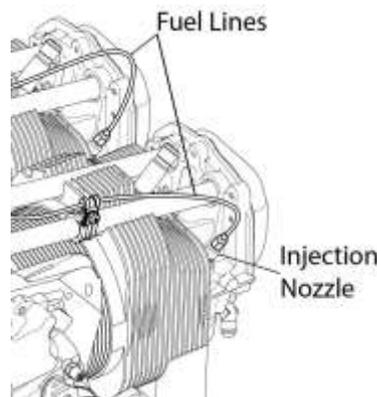

Figure 8
- (1) Disconnect the fuel line from the injection nozzle (Figure 8).
- (2) Remove the injection nozzle from the engine cylinder.
- (1) Before installing the injection nozzle on the engine cylinder, as an option, complete the “Injection Nozzle Fuel Flow Check” in this chapter.
- (2) Lightly lubricate the injection nozzle threads with engine oil mixture.
- (3) Install the injection nozzle (Figure 8) on the engine cylinder.
- (4) Torque the injection nozzle to 60 in.-lbs. (7 Nm). Continue to torque the injection nozzle until the letter or number stamped on the nozzle points downward.
- (5) Connect the fuel injector line to the injection nozzle.
- (6) Make sure the clamps are installed securely on the fuel injector lines per the “Fuel Line Installation” procedure.
- (6) During the “Operational Ground Check” (Chapter 72-00) and after all maintenance is complete, look for fuel leaks at the fuel injector lines and connections during engine operation. Identify and correct the cause of any fuel leak. There must not be any fuel leak when the engine is returned to service.
- B. Disconnect the fuel injector line from the injection nozzle (Figure 8).